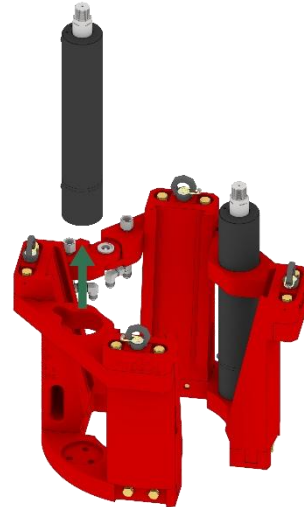

Fig. 30
**Step 4:** Remove the cylinder by lifting it out of the body plate assembly. See Figure 30.